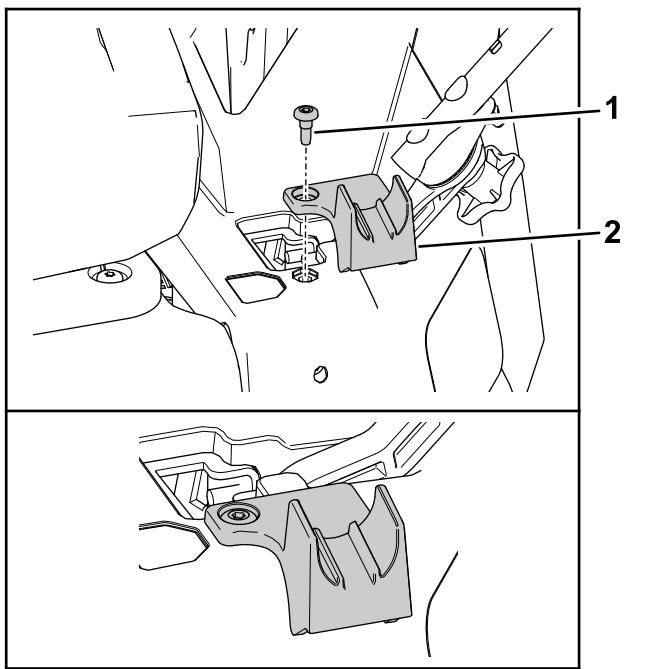

Figure 7
2. Align the handle retainer to the left pod as shown in Figure 7.
3. Secure the retainer to the pod (Figure 7) with the shoulder screw (1/4 x 1/2 inch) from the kit.